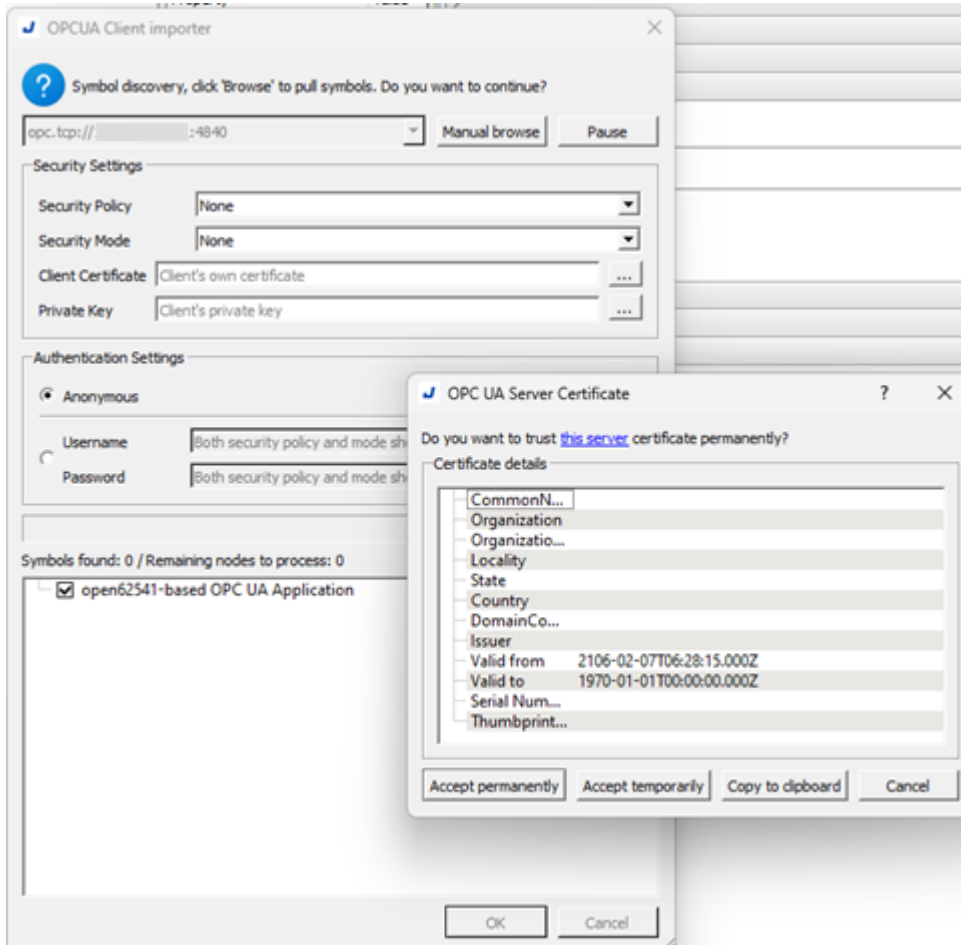

Figure 3-37: OPC UA Server Certificate dialog box
20. Click the **Accept Temporarily** button. (Figure 3-37)